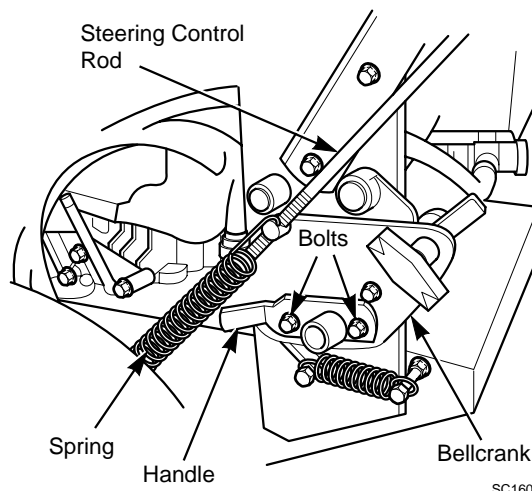

Figure 8. Neutral Adjustment
2. Remove the speed control spring and the steering control rod from the machine. (See figure 8)
4. Start the engine and observe the drive wheels. If the drive wheels are rotating, loosen the bolts on the neutral adjustment handle and move the handle up or down until the wheels are in neutral. (See figure 8)